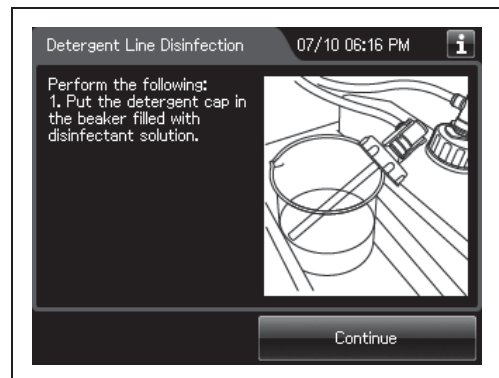

Figure 7.89
- 27** When the touch screen display changes as shown Figure 7.89, put the nozzle of the detergent cap in the beaker filled with the disinfectant solution.